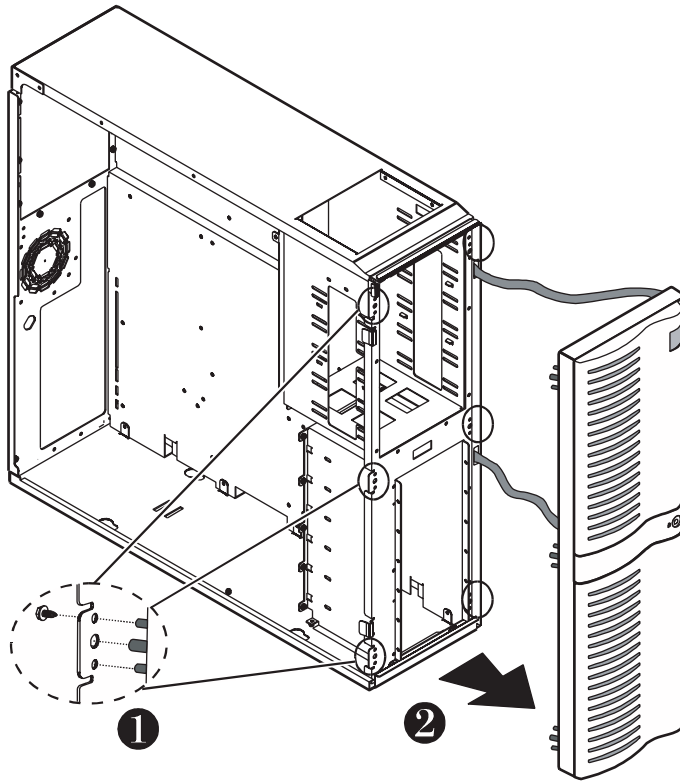

Figure 3: Removing the Bezel
4. Remove the six screws that secure the bezel to the chassis, as shown in Figure 3. Set the screws aside.